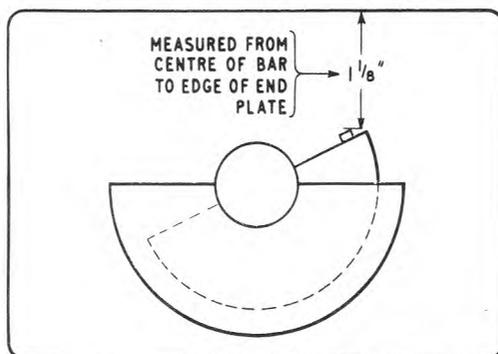

Fig. 5. Ganged capacitor setting
88. Set the KILOCYCLES scale against the mechanical end stop at the 100 kc/s end and check that the ganged capacitor is set as shown in fig. 5.